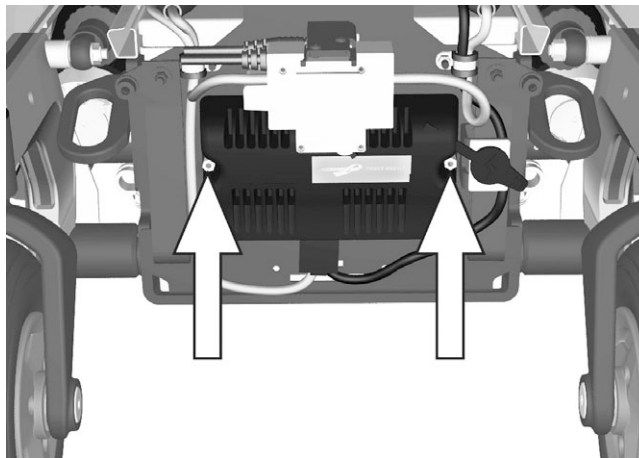

Figure 153. The Power Module is fitted with two nuts.
6. Remove the Power Module, it is fitted with two nuts. See fig. 153.
1. Reassemble the Power Module, it is fitted with two nuts. See fig. 153.